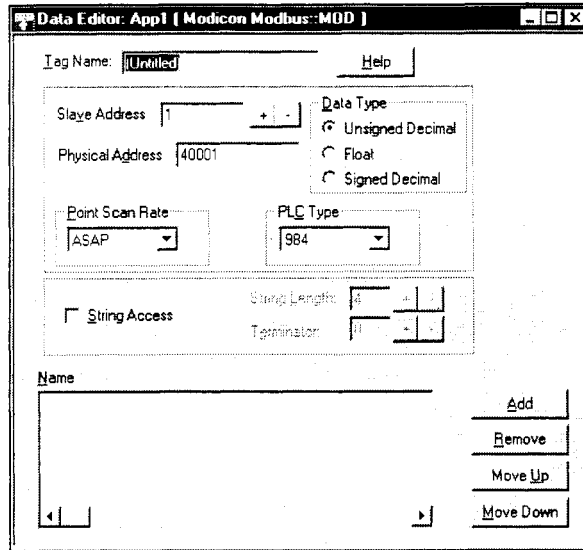

Figure 5. Modicon Modbus Data Point Configuration Form
2. Double-click on the driver name for which you want to configure tag names. The Modicon Modbus data point configuration form opens, as shown in Figure 5.